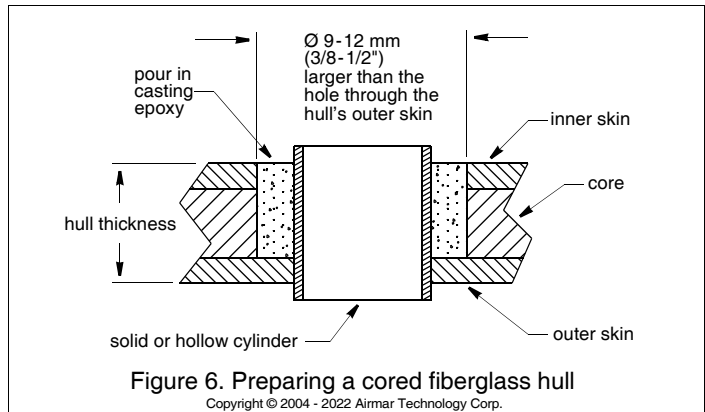

Figure 6. Preparing a cored fiberglass hull
2. Using a  $\varnothing$  51 mm or 2" hole saw, cut the hole from outside the hull through the *outer* skin only (Figure 6).